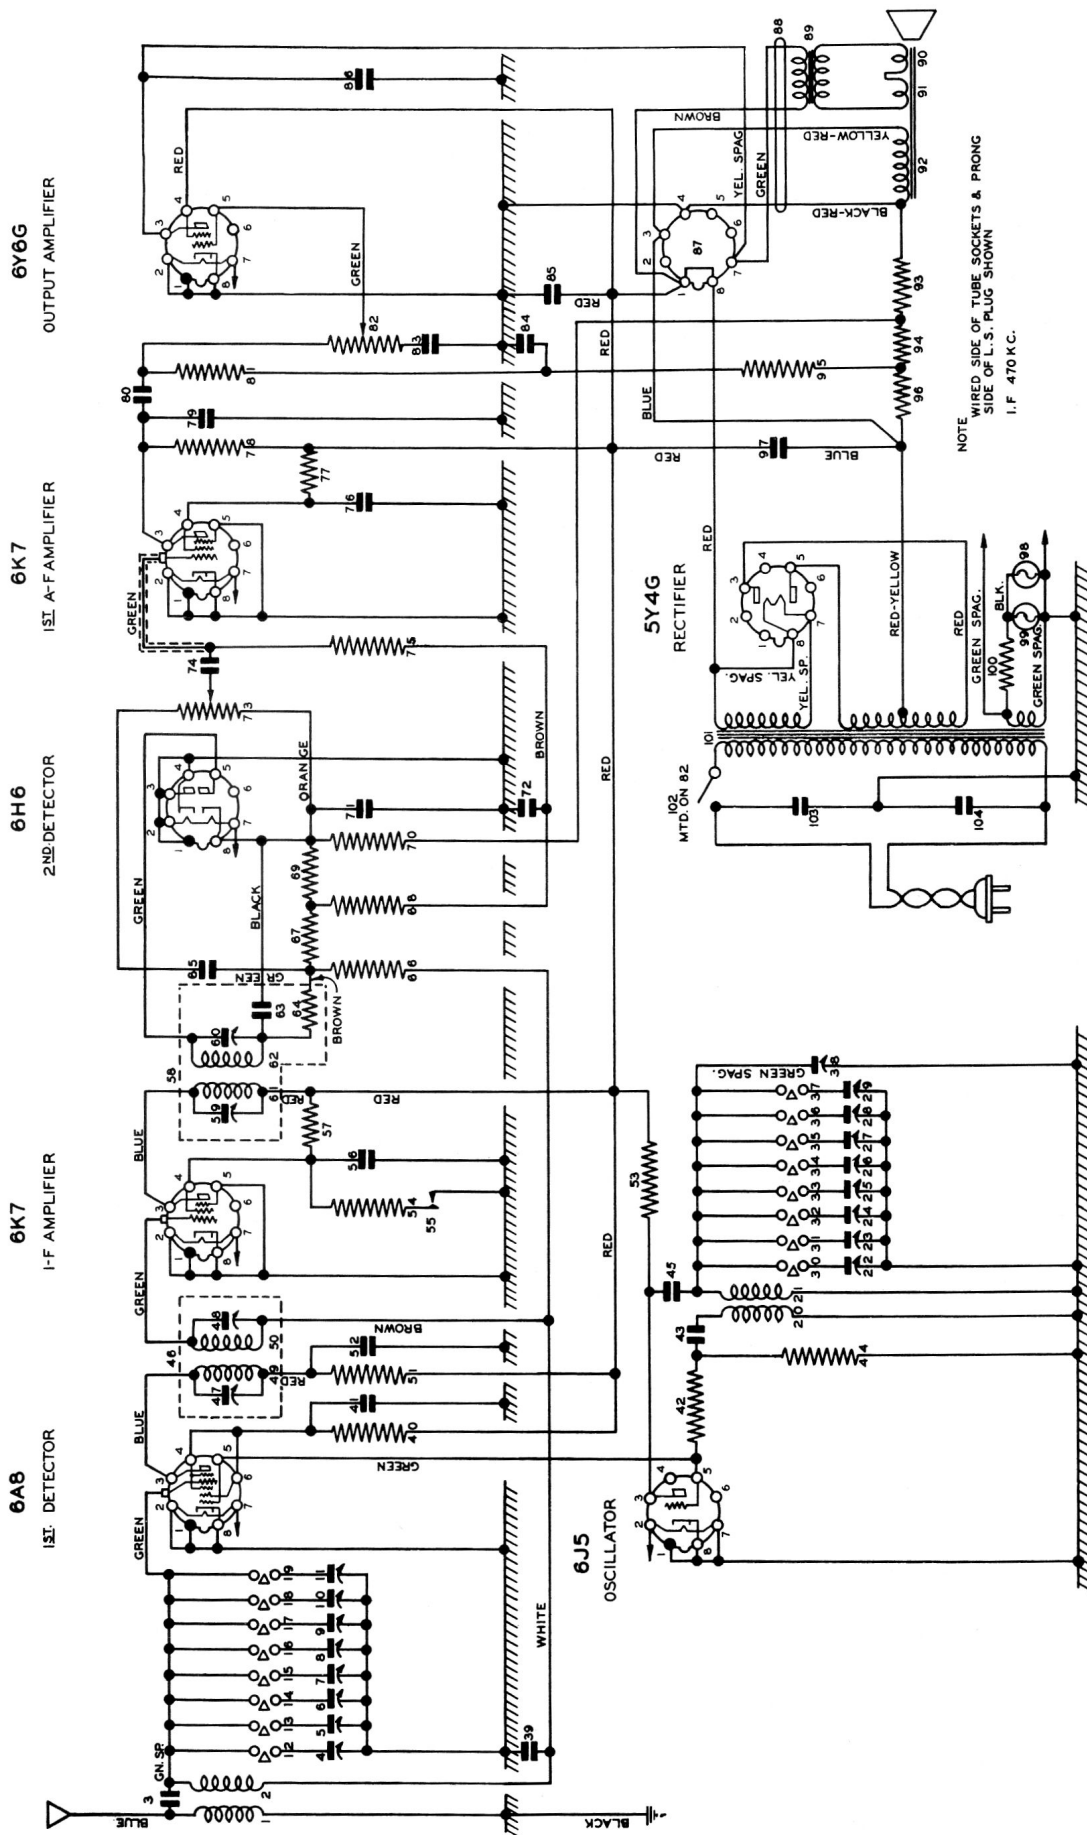

Figure 4.—Schematic Circuit Diagram—Model 730A.
CIRCUIT:—(Refer to Fig. 4—Schematic Circuit Diagram)—The broadcast antenna transformer uses both inductive coupling, between items 1 and 2, and capacitive coupling through item 3. There is no gang tuning capacitor since tuning is accomplished by means of the tuner assembly. This assembly includes eight push button switches each associated with a pair of trimmers. When a button is pressed its corres-